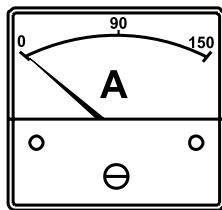

Figure 50. Ammeter (No Load)
6. The **ammeter** (Figure 50) will indicate **zero amps** with no load applied. When a load is applied, the ammeter will indicate the amount of current that the load is drawing from the generator.